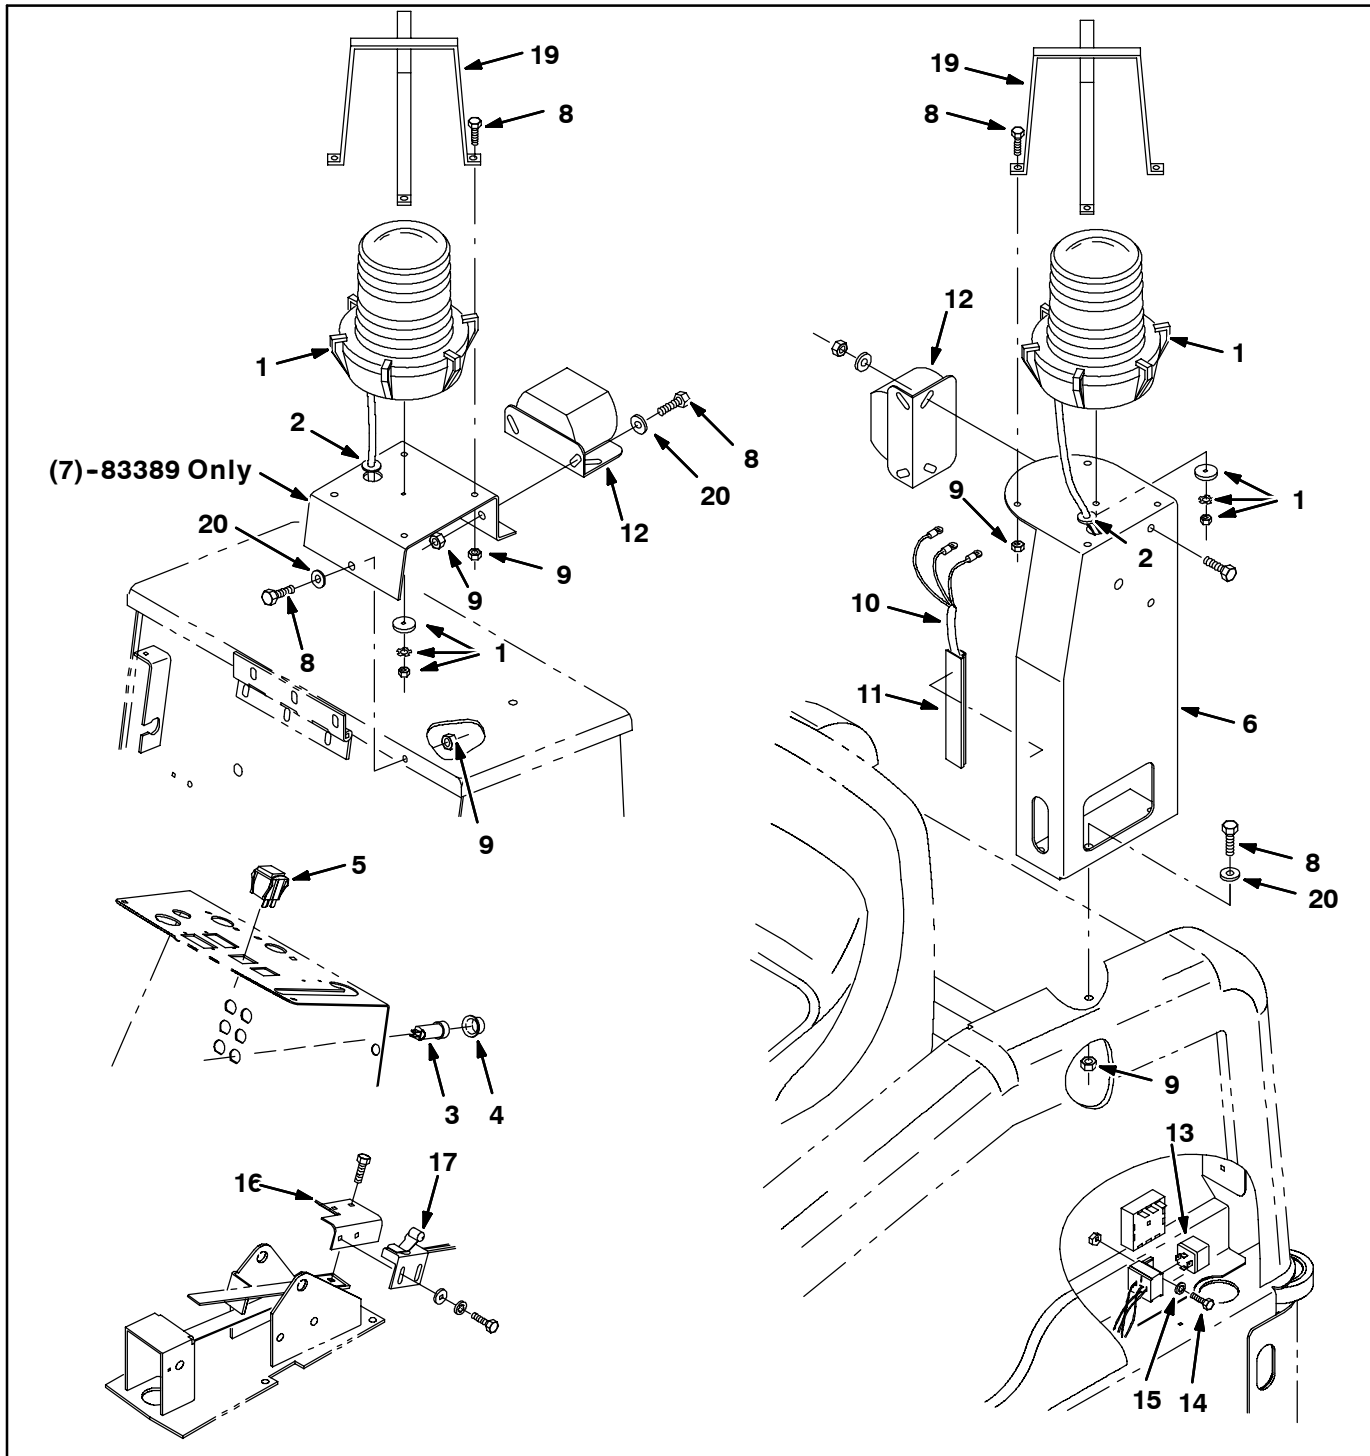
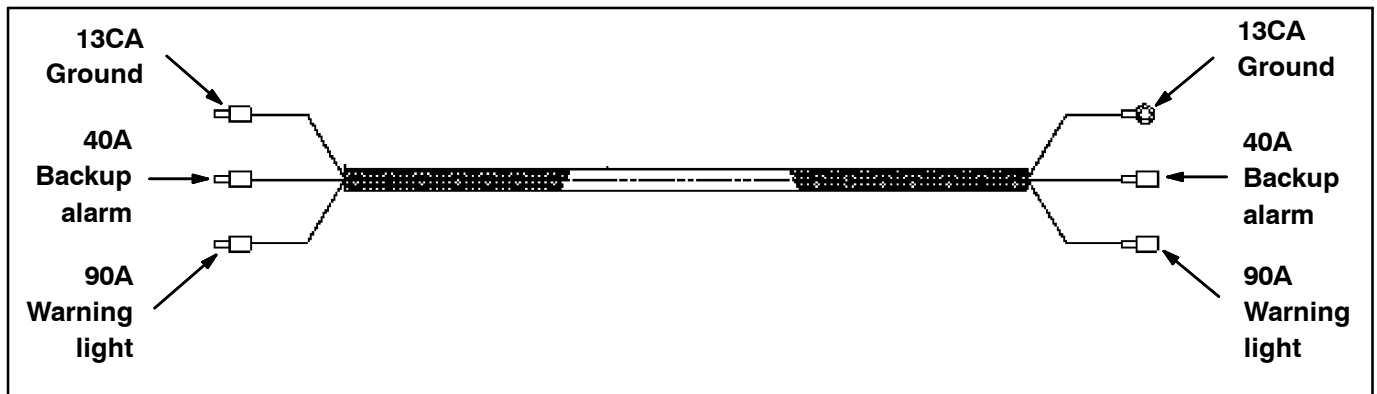
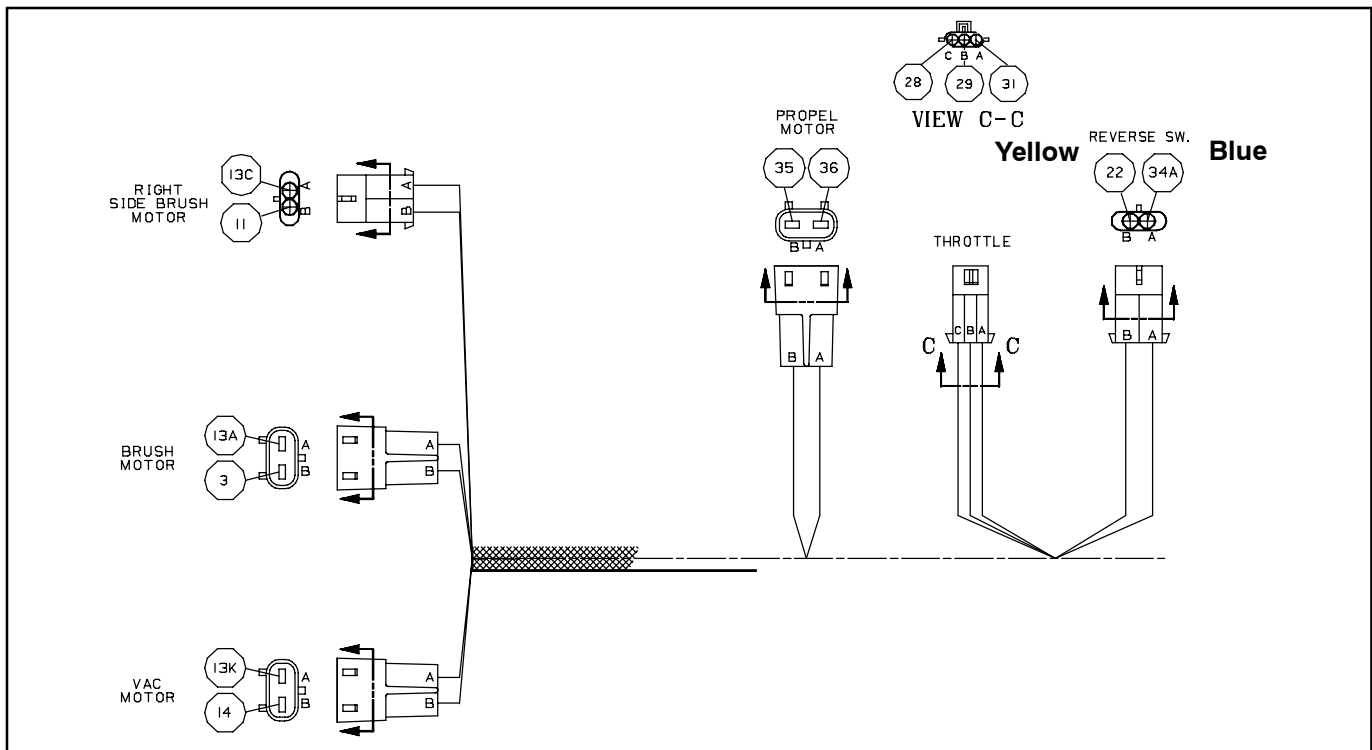
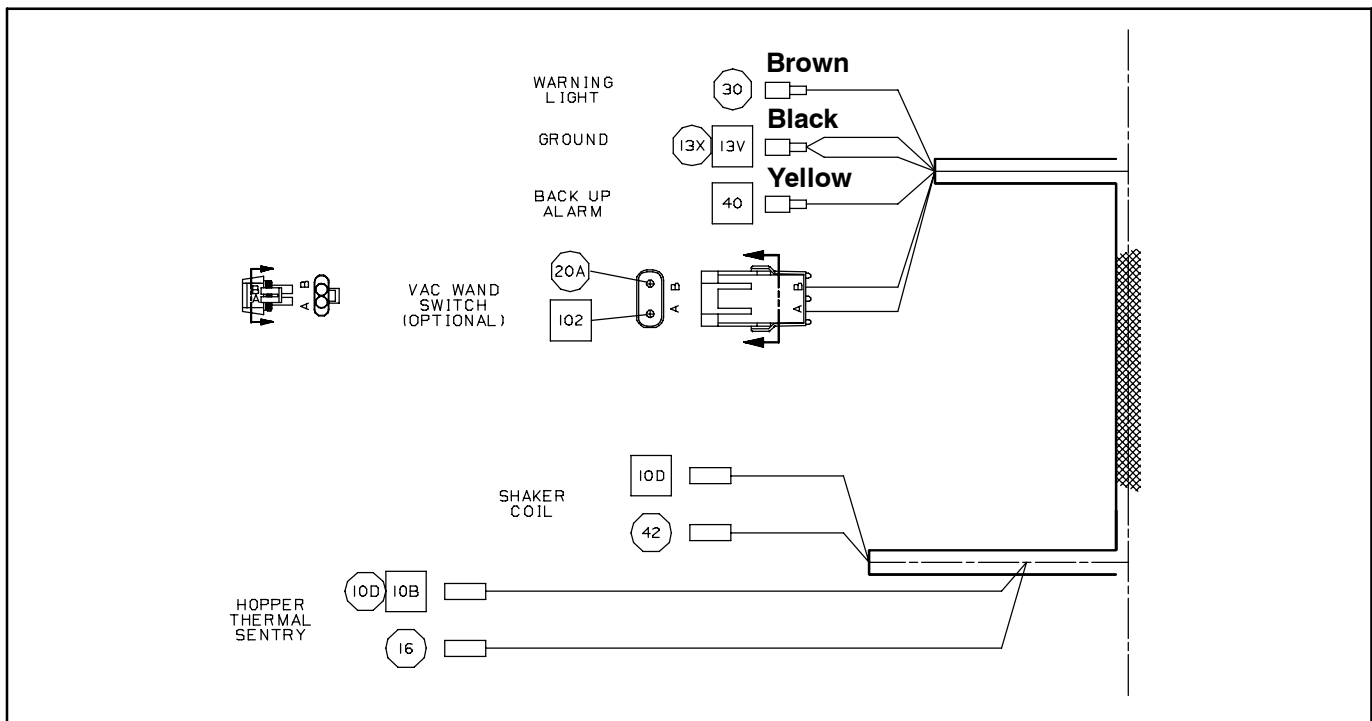

FIG. 1
FIG. 2
FIG. 3
FIG. 4
1. Remove the debris hopper. Lower and remove the filter to access the mounting holes for pedestal (6).
2. Use screws (8) and hex nuts (9) to mount the pedestal (6) to rear left corner of the machine. Refer to Fig. 1.
3. Insert the grommet (2) into the hole in the pedestal (6). Refer to Fig. 1.
4. Carefully guide wires from the warning light (1) and backup alarm (12) down through grommet (2) in the pedestal (6).
5. Use hardware from the warning light (1) to mount the warning light onto the pedestal. Refer to Fig. 1.
6. Use two hex screws (8), two flat washers (20), and two hex nuts to mount the backup alarm (12) onto the pedestal (6). Refer to Fig. 1.
7. Connect the wires from the warning light (1) and from the backup alarm (10) to the warning/backup harness (10) and attach the warning/backup harness to the main wire harness. Refer to Fig. 1, Fig. 2, Fig. 3, and Fig. 4.
8. Insert the warning/backup harness (10) into the duct (11) and stick the duct to the pedestal (6). Refer to Fig. 1.
9. Use four screws (8), four washers (5), and four hex nuts (9) to mount the light guard (10) onto the pedestal (4). Refer to Fig. 1.
10. Open circuit breaker panel. Install circuit breaker (3) and circuit breaker boot (4) into the circuit breaker panel. Refer to Fig. 1.
11. Connect the main wire harness to the circuit breaker (3). Refer to Fig. 1.
12. Remove plug from warning light switch position in control panel. Install rocker switch (5) in control panel. Refer to Fig. 1.
13. Connect the main wire harness to the rocker switch (5). Refer to Fig. 1 and Fig. 4.
15. Use hex screws (14) and lock washers (15) to attach the roller switch assembly (17) to the switch mounting bracket (16). Refer to Fig. 1 and Fig 5.
17. Use switch mounting bracket (16) to mount the roller switch (17) to the propel pedal. Refer to Fig. 1 and Fig. 6.
18. Connect the main wire harness to the roller switch (17). Refer to Fig. 1, Fig. 2, Fig. 3, and Fig. 4.
20. Remove the left side panel. Refer to Fig. 1.
21. Use a hex screw (14) and lock washer (15) to install the relay (13). Refer to Fig. 1.
1. Insert grommet (2) into the hole in the mounting bracket (7). Refer to Fig. 1.
2. Carefully guide the wires from the warning light (1) and backup alarm (12) through the grommet (2) in the mounting bracket and mount the warning light and backup alarm to the mounting bracket. Refer to Fig. 1.
3. Use hex screws (8) and hex nuts (9) to mount the bracket (7) to left corner of vacuum box assembly. Refer to Fig. 1.
4. Connect the warning light/backup alarm wire harness (10) to main wire harness. Refer to Fig. 1, Fig. 2, and Fig. 3.
5. Open circuit breaker panel. Install circuit breaker (3) and circuit breaker boot (4) into the circuit breaker panel. Refer to Fig. 1.
6. Connect the main wire harness to the circuit breaker (3). Refer to Fig. 1.
7. Connect the warning light/backup alarm wire harness (10) to main wire harness. Refer to Fig. 1, Fig. 2, and Fig. 3.
8. Remove plug from warning light switch position. Install the rocker switch (5) into the control panel. Refer to Fig. 1.
9. Plug the main wire harness into the rocker switch (5). Refer to Fig. 1 and Fig. 3.
10. Use hex screws (14) and interior lock washers (15) to mount the roller switch assembly (17) onto switch mounting bracket (16). Refer to Fig. 1 and Fig. 5.
12. Turn the propel pedal upside down. Use the switch mounting bracket (16) to mount the roller switch (17) to propel pedal. Refer to Fig. 1 and Fig. 6.
13. Connect the main wire harness to the roller switch (17). Refer to Fig. 1 and Fig. 3.